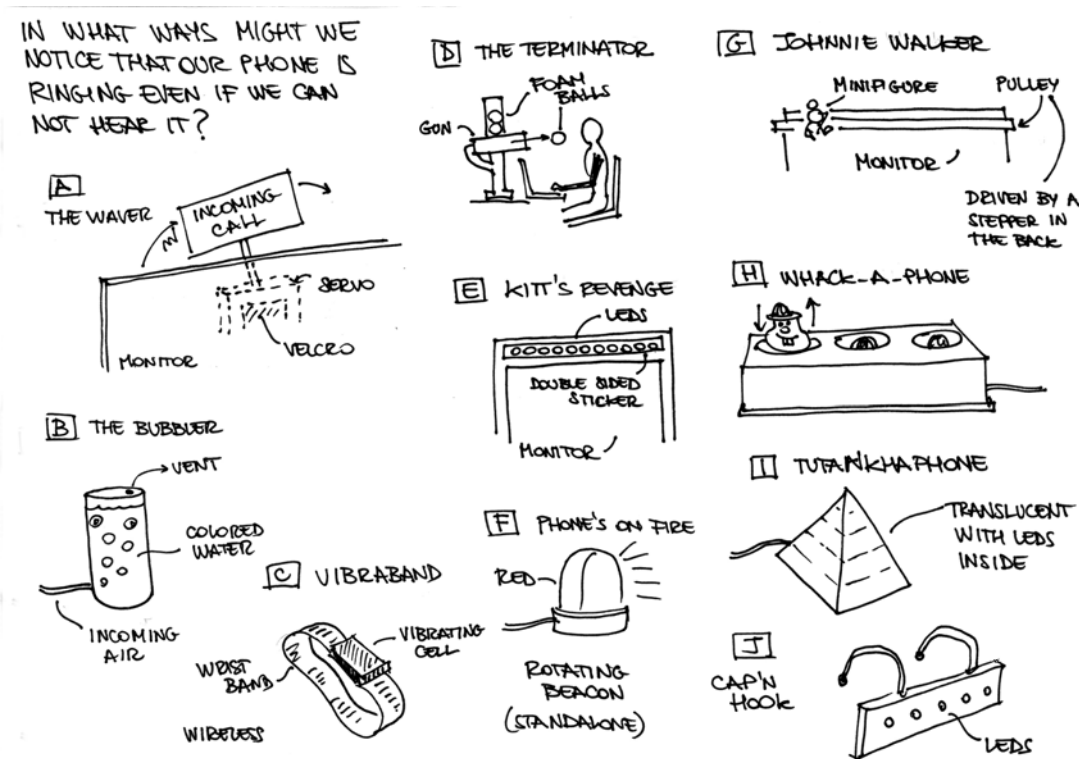

Figure 5-7 Possible integrated solutions
Expert designers do not need to generate all of the possible solutions and combinations; just like an experienced chess player excludes a series of possible moves because he already knows that they will lead him to an unfavorable position, the designer “knows” which partial solutions to exclude beforehand in a given context and which combinations can work better than others. For example, although the *Terminator* (D) in Figure 5-7 has a very high “wow factor” that creates interest and amazement, it would hardly be chosen for further deeper analyses. Yet, if we asked designers to teach us their profession and explain the reasons for their choices, many of them would find it hard to answer because their knowledge derives from extensive experience and has been internalized into a kind of *tacit knowledge*. So we have to find a series of parameters that characterize the different possible solutions *and* a
In this case the most promising solutions from Figure 5-7 seem to be E and A, so we could exclude all the others, but it's good to consider as